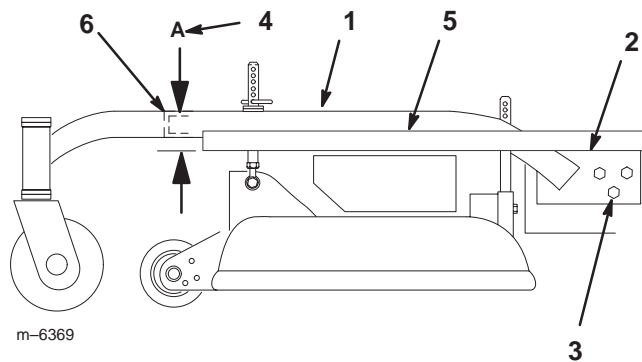

Figure 46
- Place a long straight edge on top of the engine deck as shown in figure 46.
- At the carrier frame cross tube, measure location **A** height (Fig. 46). This measurement must be 1–5/16 inch (33 mm), plus or minus a 1/4 inch (6 mm).
- Loosen the carrier frame mounting bolts on both sides of the machine (Fig. 46).
- Align the carrier frame and engine deck to match 1–5/16 inch (33 mm), plus or minus a 1/4 inch (6 mm) at location **A** (Fig. 46).